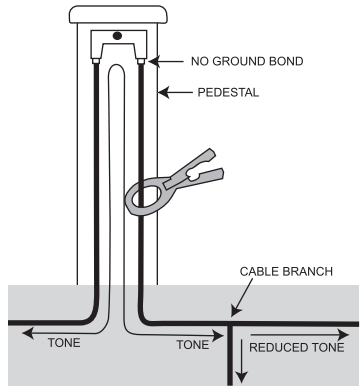

Fig. 12. Reduced Tone at Cable Branch
4. **Reduced Tone At Branch:** When tone is applied to a cable which has a branch, the tone will be split and be effectively decreased relative to each conductor's length and size. (See Fig. 12)